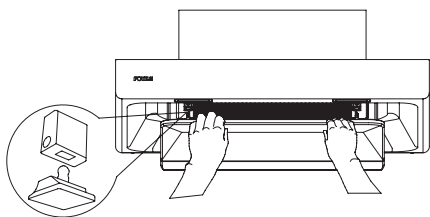
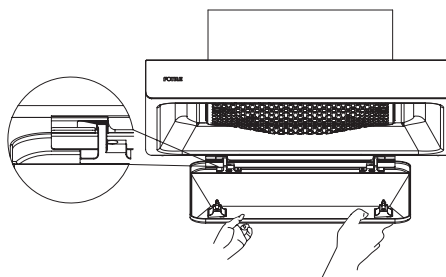

Fig.1
Fig.2
1. Grasp the front edge of wing plate with hands, pull it down to detach the locking tab of the wing plate (Fig. 1).
Then flip it down at a certain angle, and remove the wing plate horizontally with hands finally (Fig. 2).
1. First remove the wing plate (see Fig. 1 and Fig. 2);